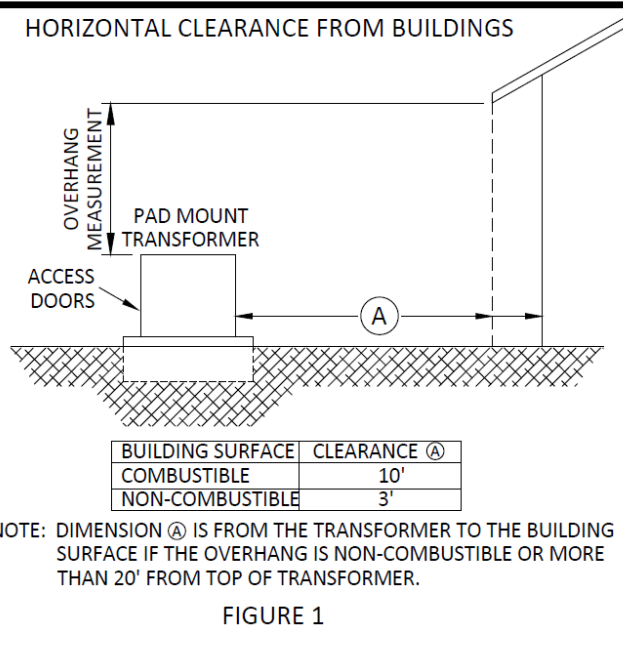

FIGURE 1
BASIC HORIZONTAL CLEARANCES: (FIGURE 1)
- a) ON DOOR SIDE(S) OF EQUIPMENT WHERE POSTS COULD INTERFERE WITH OPERATION OF LIVE LINE TOOLS.
- 2) DIMENSIONS FOR LOCATION OF POSTS WITH RESPECT TO EQUIPMENT PAD ARE DETERMINED AS FOLLOWS: (SEE FIGURE 1)